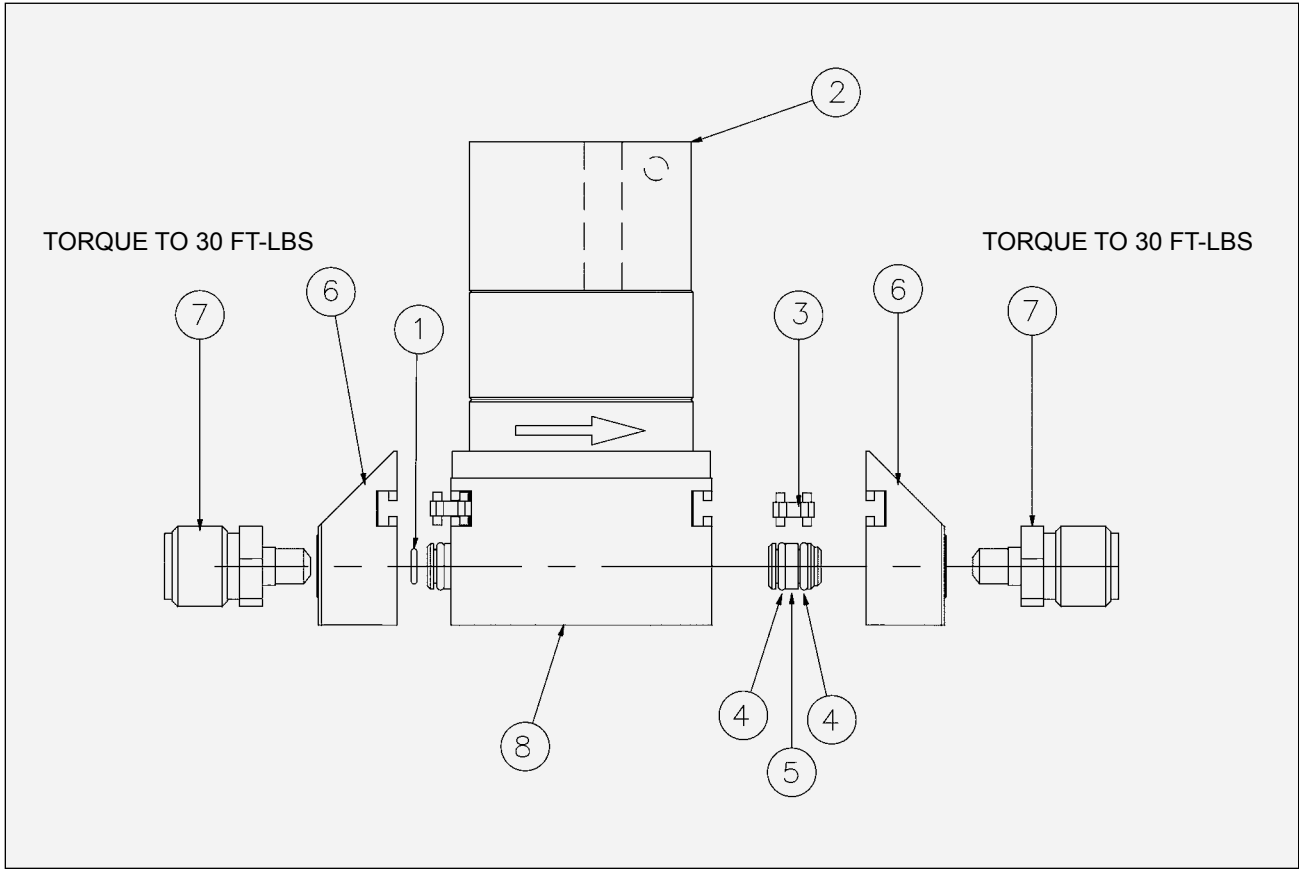

Figure 28: A10999-00 Stand Alone Flow Meter Assembly (AW)
A10999-00 STAND ALONE FLOW METER ASSEMBLY (AW) - PARTS LIST (Figure 28)